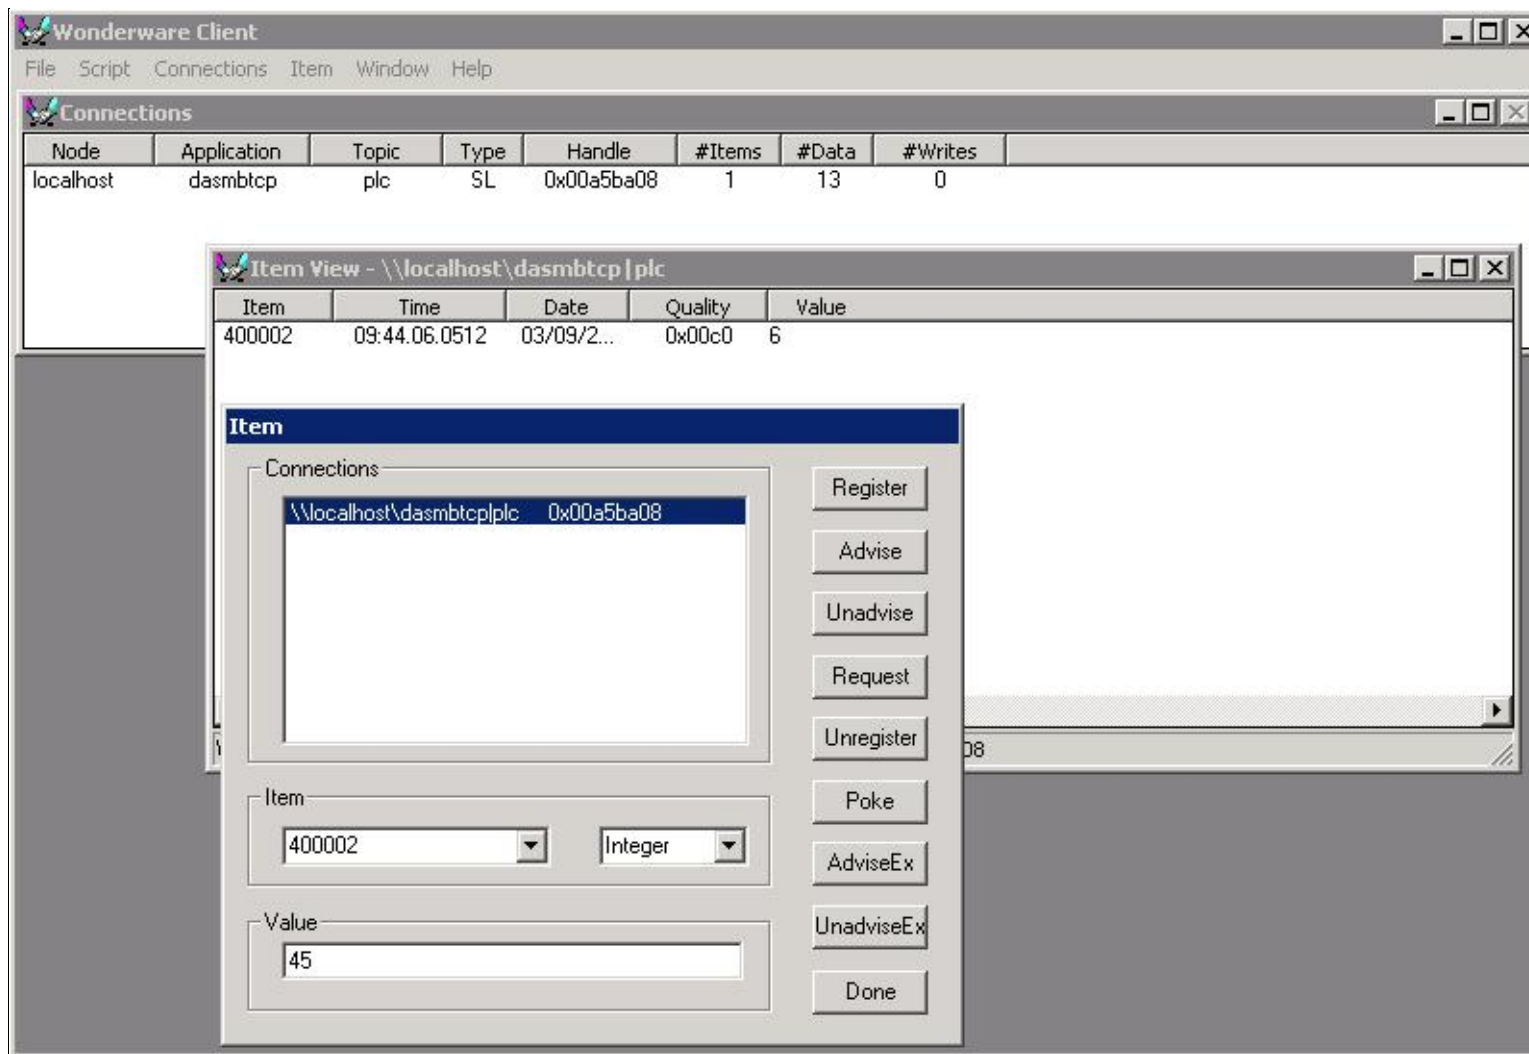

FIGURE 5: ADVISE ITEM CONFIGURATION
5. Click **AdviseEx** (Figure 5 below).